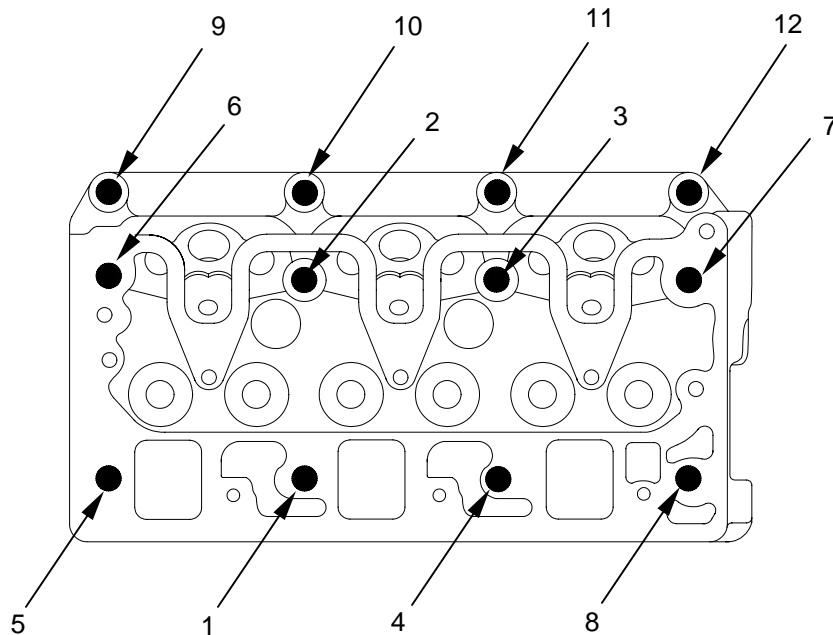

Figure 13. Cylinder Head Bolt Installation Sequence
- e. Install the M12 bolts (**figure 13, item 1 through 8**) and M8 bolts (**figure 13, item 9 through 12**) hand tight.
- f. Tighten the bolts in the sequence shown in figure 13 to the following torques: M12X1.5 8.5 to 9.5 kg-m (61-69 ft-lbs). M8X1.25 18-25 kg-m (61-69 ft-lbs).
- g. Torque the bolts in the sequence in figure 13 an additional 60° (one flat of the bolt).